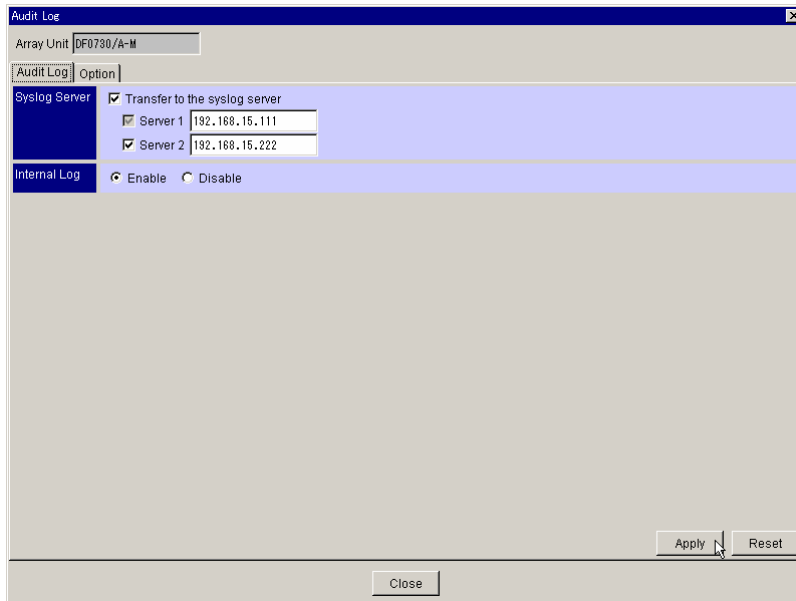

Figure 4.14 Audit Log Panel, Audit Log Tab
2. The Array System Viewer displays. From the **Tools** menu, select **Audit Logging** to display the **Audit Log** panel. The Audit Log tab is the default view (see Figure 4.14).
Note: Before performing this operation, you should already have selected the **Enable** check box in the **Internal Log** box (refer to Figure 4.14). Refer to section 4.2 if you need instructions.